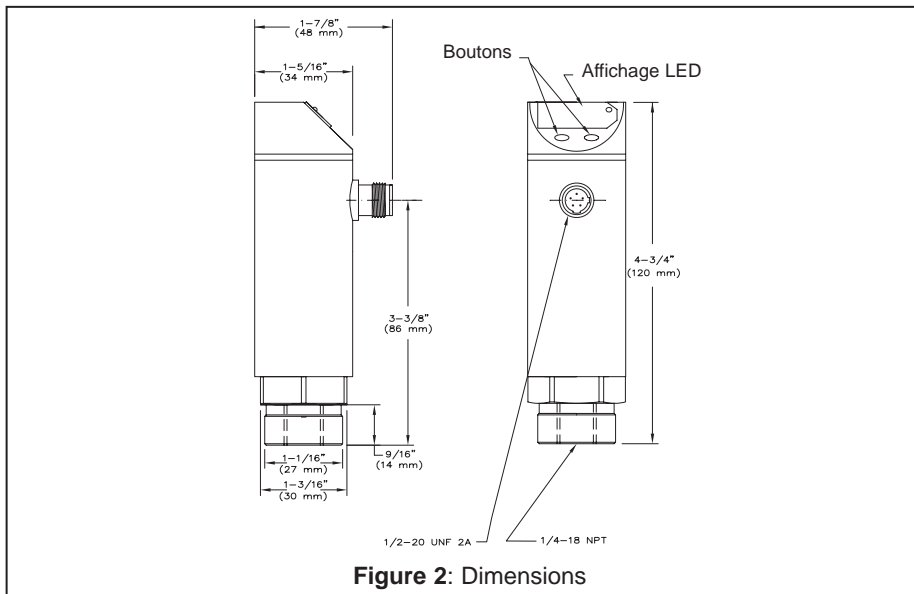

Figure 2: Dimensions
- Dimensions: 48 mm (1-7/8") L x 120 mm (4-3/4") H (voir figure 2)